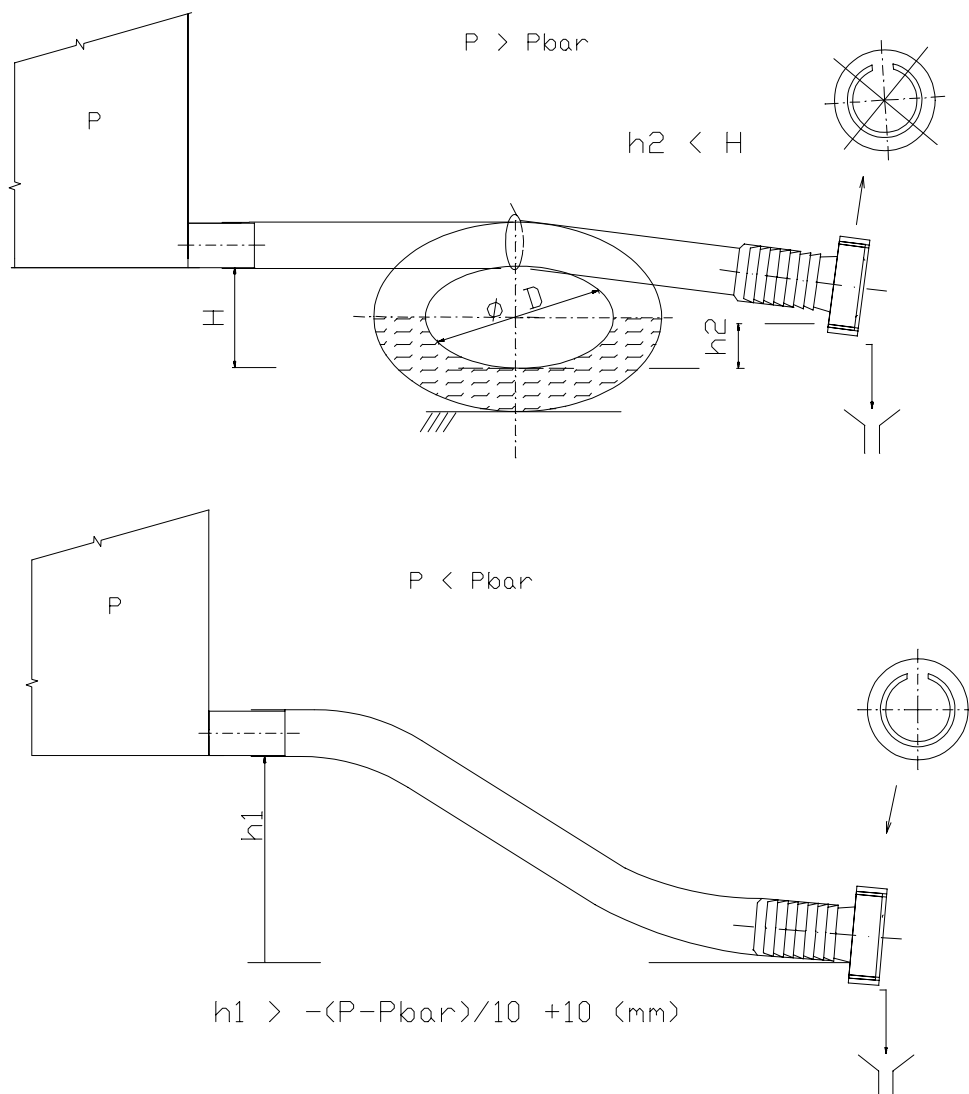

Fig. 6 – Odour-preventing water closures
- All outlets to cooling chambers sewage, ZTZ, water and steam moisturising must be connected because of faultless operation via odour-preventing water closures as per Fig. 6. Separate closures are used for each chamber separately. Odour-preventing water closures are included in the given chambers supply. Odour-preventing water closures are constructed for the maximum chamber under-pressure of 700 Pa. Upon a higher under-pressure it is necessary to use an odour-preventing closure determined as per the following formula: